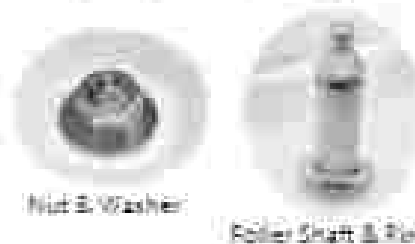

Figure 9 - Roller Hardware
3. To remove the roller shaft, remove the 3/16" nut and washer from the roller support, and remove the support and remaining triangular ring. See Figure 9.